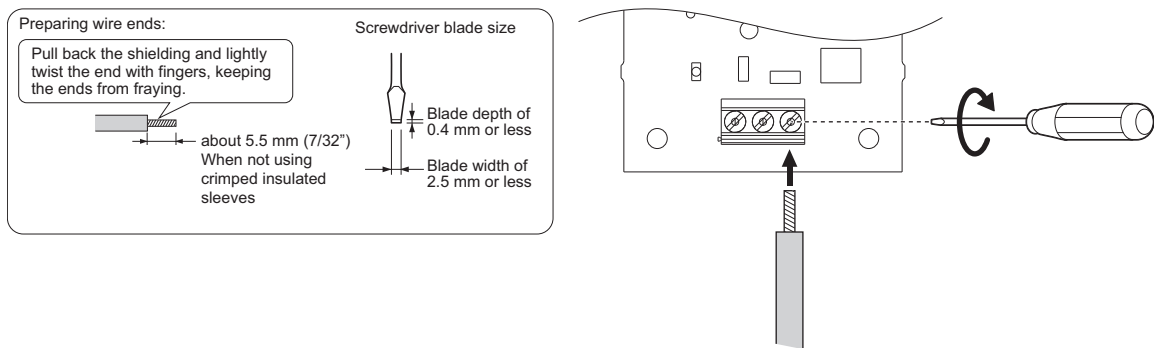

Figure 3.58 Wire the Option Plug
2. Use a flat-blade screwdriver to loosen the screws on the terminal block TB1, connect wiring to the 24, 0, and FE terminals as shown in **Figure 3.58**, then tighten the terminal screws to hold wiring in place.